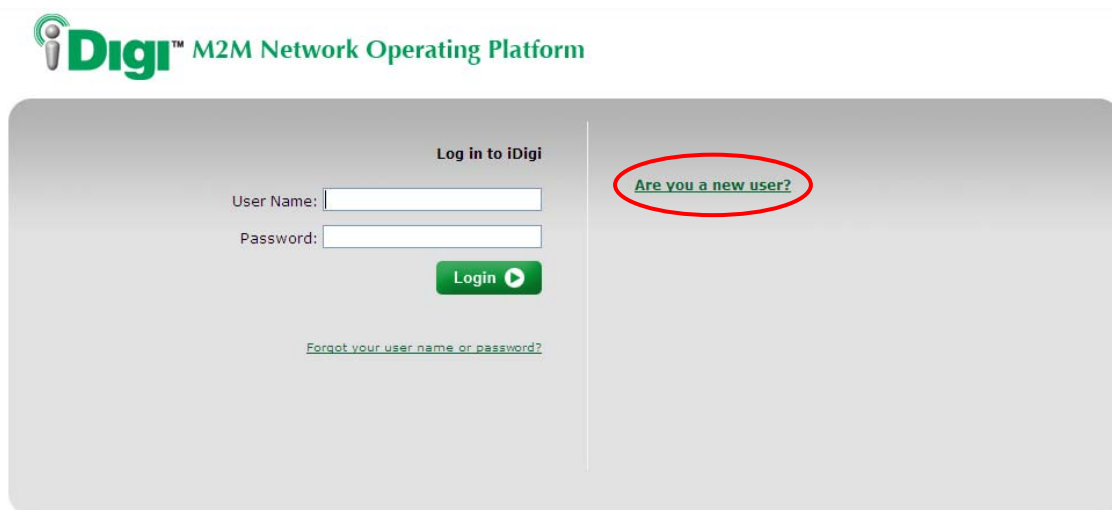

Figure 6: iDigi Login Page
- e. After completing the iDigi Registration process, you will be redirected to the iDigi Login page (refer to Figure 6, above). Enter your iDigi user credentials and then click the **Login** button.